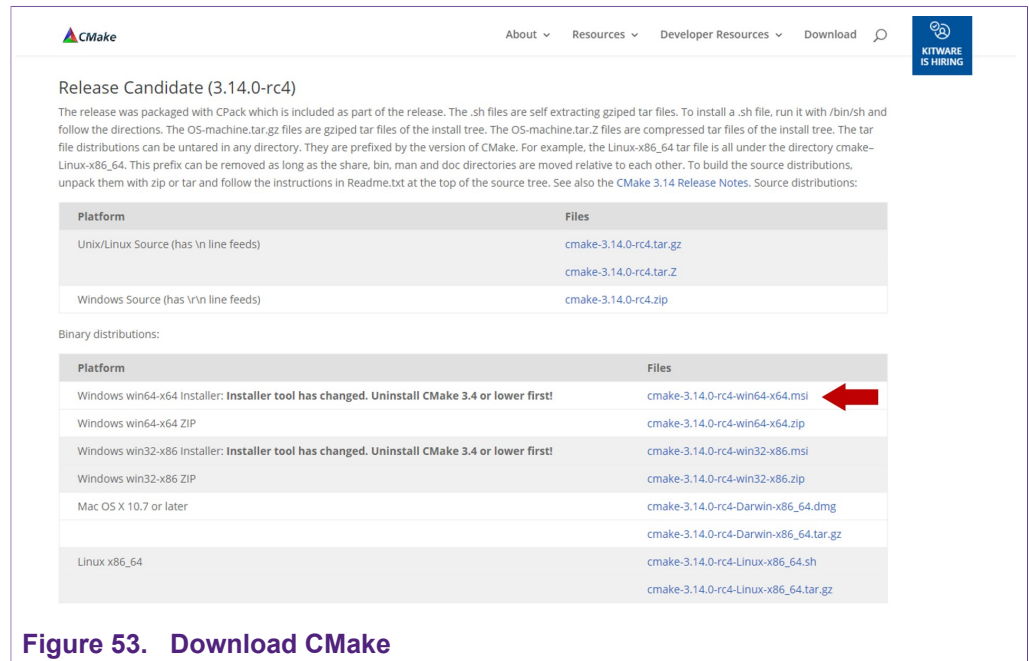

Figure 53. Download CMake
2. Scroll down and select your binary distribution. For this guide, the binary distribution is Windows as shown in Figure 53: